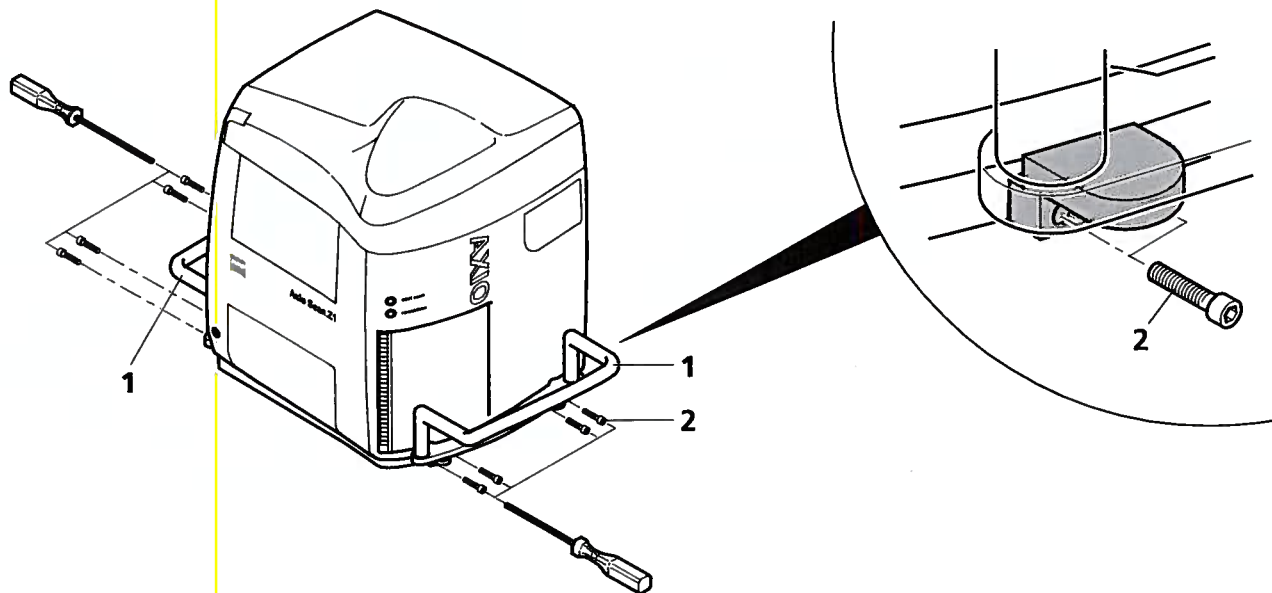

Fig. 6-7 Axio Scan.Z1 transport fixture
The two grip handles (Fig. 6-7/1) must be mounted for transporting the device.
- Mount a grip handle on the left and right sides of the base of the device using 4 screws (Fig. 6-7/2, Allen key 6 mm).